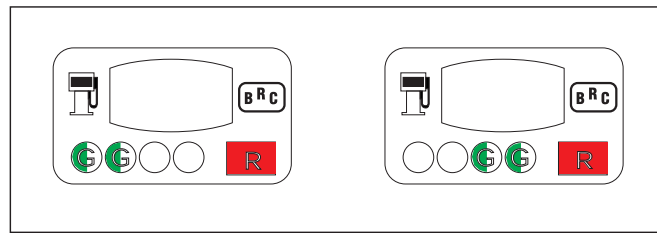

Fig. 24
- **After approx. 10÷15 seconds, the TWO-COLOURED LED turns on fixed red** (beginning of the TPS acquisition phase) (fig. 24).